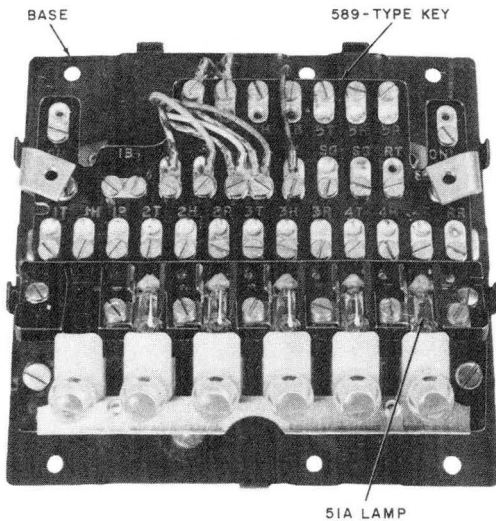

Fig. 6—6041-Type Key, Internal View
3.07 6041-Type Keys may be mounted to wall or other vertical surface. The key cable is connected directly to the terminal board (Fig. 6).